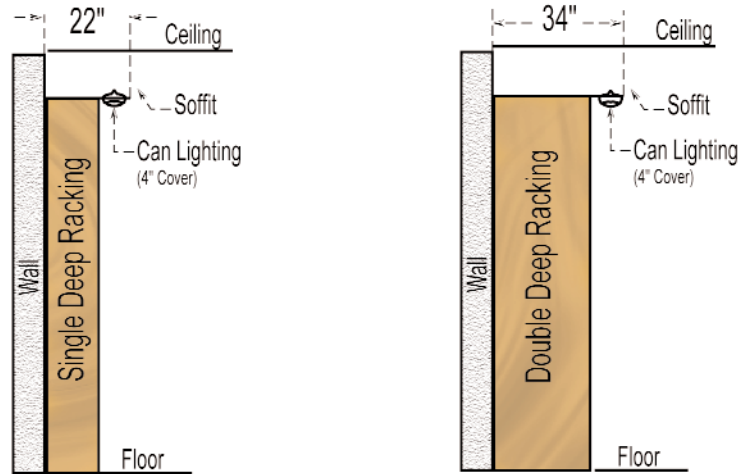

Figure 4
8. All finished soffits for single deep racking with lighting must be a minimum of 16" + diameter of "Can Light" cover + 2". Double deep racking with lighting must be a minimum of 28" + diameter of "Can light" cover + 2". (See figure 4 below)